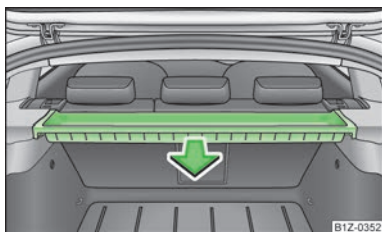

Fig. 84
- Grab the housing with both hands and remove by pulling in the direction of the arrow » Fig. 84.